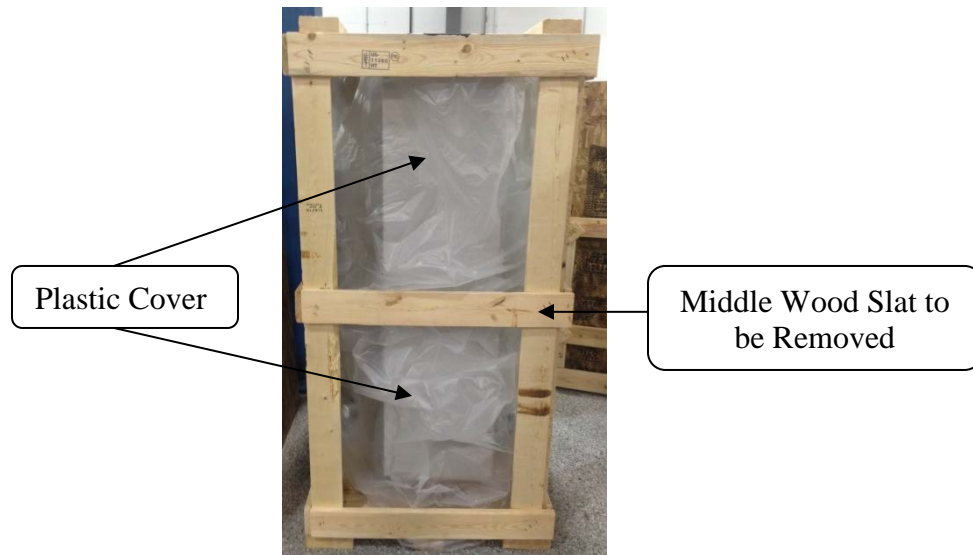

Figure 1. Water Heater Shown in Crating
1. Complete removal of the water heater from the shipping crating is not required for conversions. Locate the front of the water heater with the control cabinet through the plastic. Using a hammer and/or pry bar remove the wood slat in the middle of the front crating and set aside (see Figure 1). Push the plastic cover to the top of the water heater.